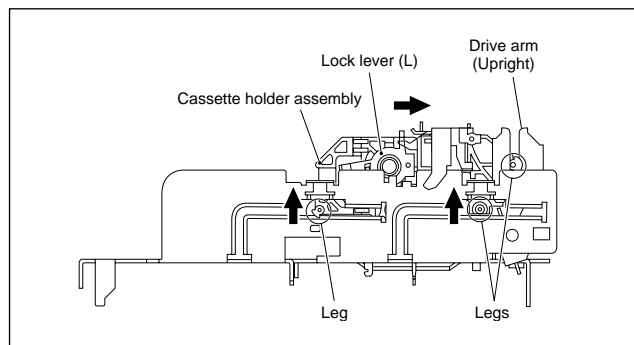

Fig. 2-2-3c
- (4) While swinging the lock levers (R) and (L) of the cassette holder assembly toward the front, slide the cassette holder assembly until its legs come to where the guide rail and the roller cam assembly have been removed (so that the drive arm is upright). (See Fig.2-2-3c.)